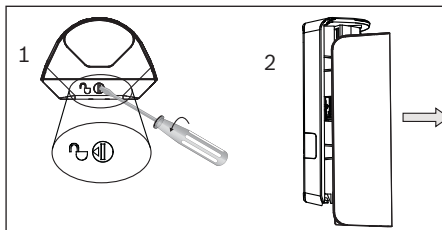

Figure 4.1: Unlock and open detector
1. Turn the rotary lock at the bottom of the detector to the open position. The body slides down. Refer to Figure 4.1.